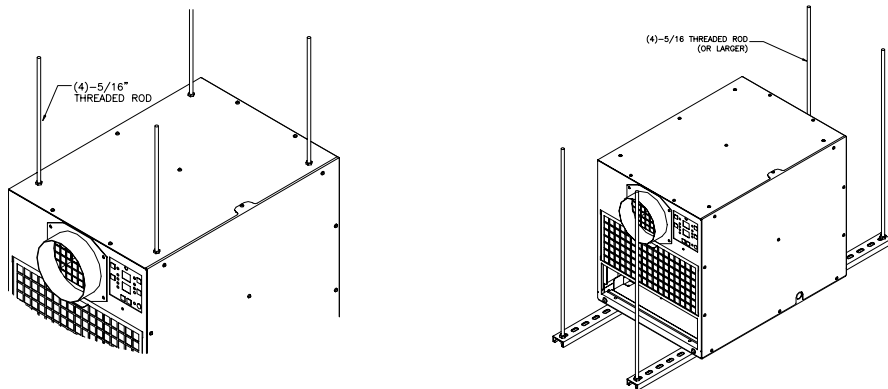

Figure 3
- Threaded Rod and/or 14 gage Uni-Strut and Threaded Rod (Figure 3)
- Six-Inch Flange Kit (Figure 3)
- Attach the Handle Kit to the top of Unit 2. See Figure 3. (Optional)
- Attach the (4) Threaded Rods to the top panel of the Cool Cube 10. See Figure 3
- Attach 14 gage Uni-Strut to the bottom of the CoolCube with (4) Threaded Rods. See Figure 3
- Attach 14 gage Uni-Strut to the top of the CoolCube with (4) Threaded Rods. Not Shown
- Attach the Cold Air Distribution Accessory (nozzle/flange) to the front panel. See Figure 3